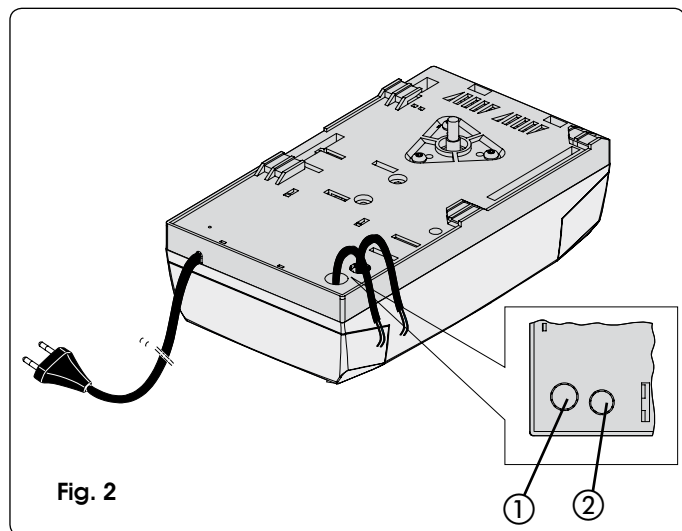

Fig. 2
- To connect the external controls, safety devices and signals, break open the pre-holed element (Fig. 2 ref. ①).
- To connect the safety edge, break open the pre-holed element (Fig. 2 ref. ②).